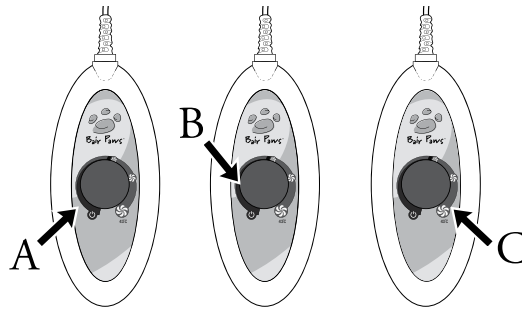

Figure 7. Handheld controller
7. Turn the temperature controller to the OFF position to reset the alarm (position A, Figure 7). Wait ten seconds.
8. Turn the temperature controller to position B (Figure 7). After waiting several minutes, the thermocouple temperature should approach the ambient temperature.